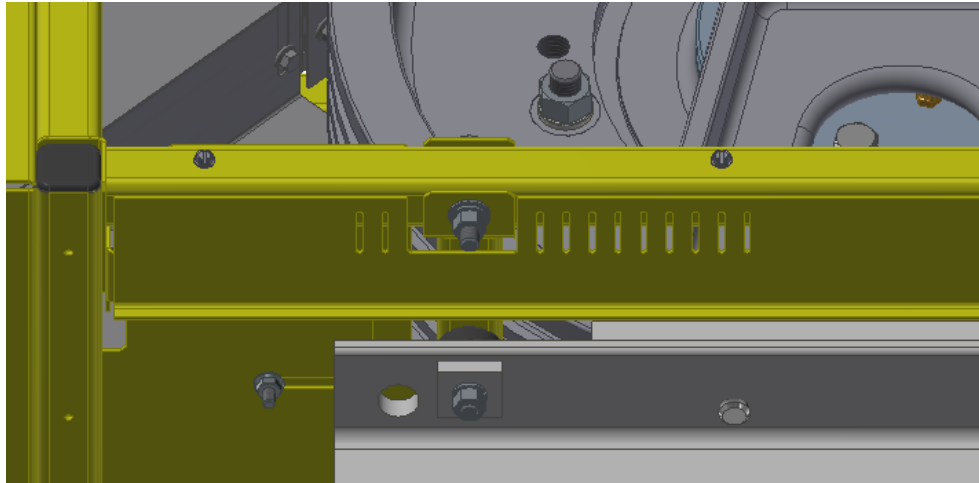

Figure 15: Machine Guard Side Filler Panel Notch
- Measure the location of the Machine Guard Mounting Tubes (p/n _ _-233) and cut out the appropriate notches on Machine Guard Side Filler Panels (p/n _ _-243) to clear the Machine Guard Mounting Tubes as illustrated below (Figure 15).